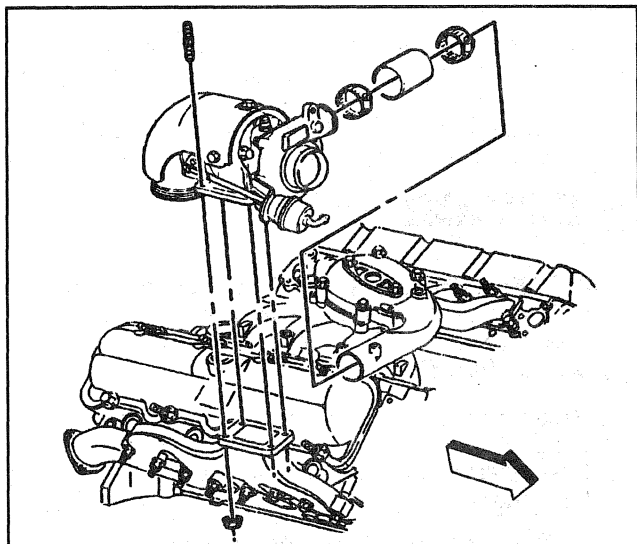

Figure 11—Turbocharger Mounting
B. Make sure the turbocharger and exhaust manifold flanges are clean and free of any foreign material. Use a high temperature anti-seize compound GM P/N1052771 or equivalent on all threaded fasteners connected to the turbocharger (Figure 11).